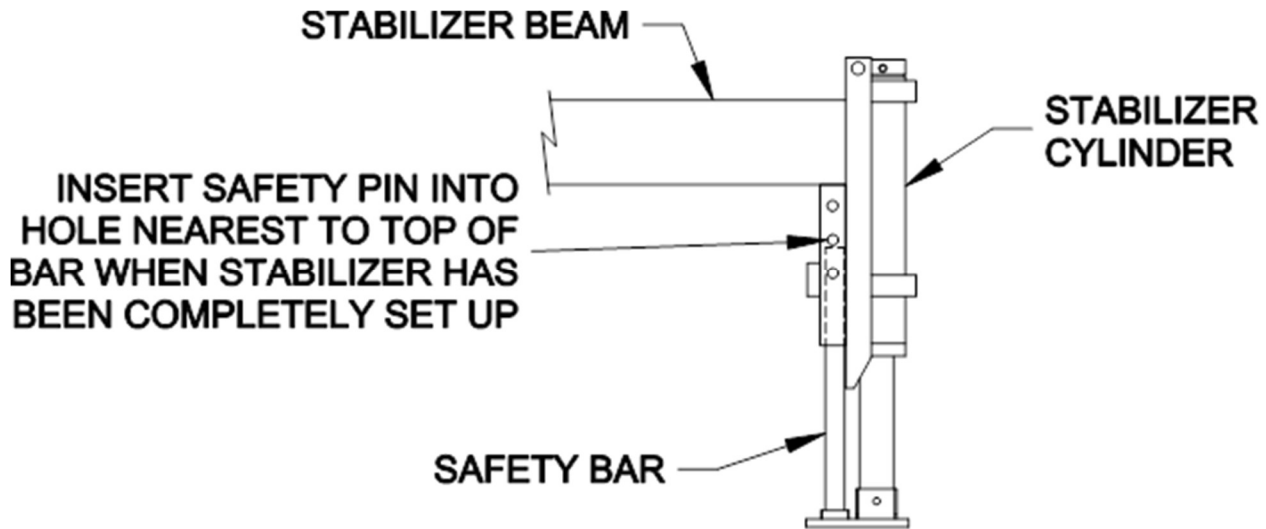

Figure 2- Jack Stabilizer Cylinders
12. Insert both safety pins into their appropriate holes just behind the front jack stabilizer cylinders. (See fig.2)